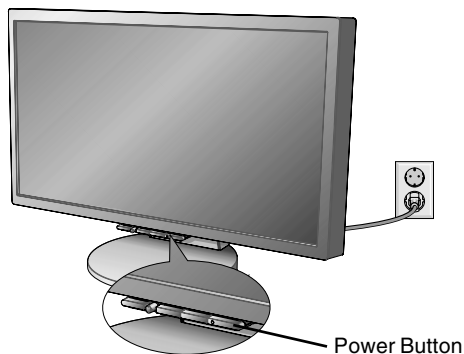

Figure E.1
14. Connect the power cord to the power outlet (**Figure E.1**).
15. Turn on the monitor with the front power button and the computer (**Figure E.1**).